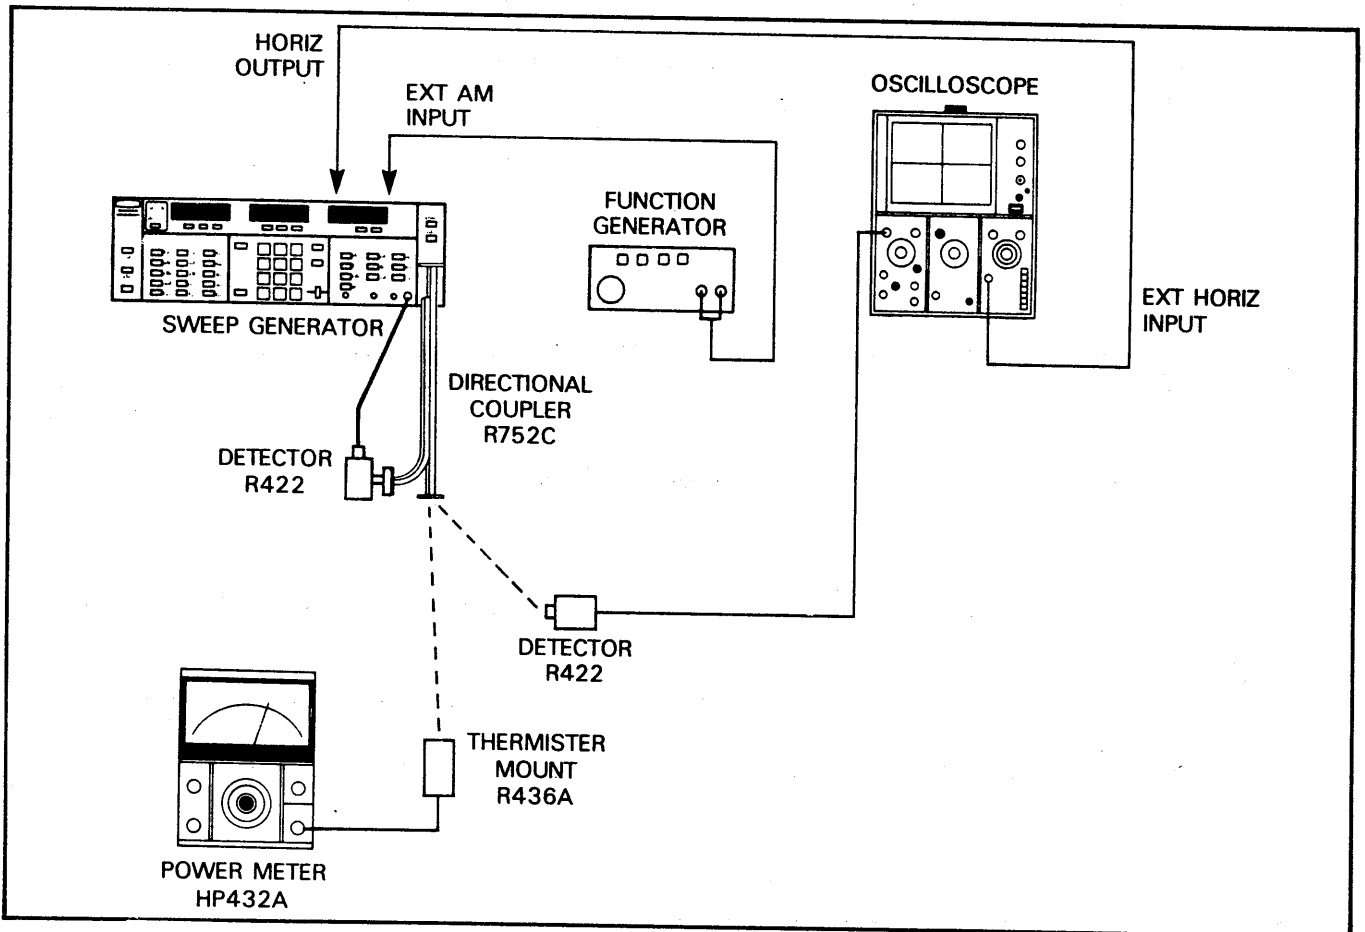

Figure 3-27. External Leveling Test Setup (6642A)
with the 26.5-40 GHz band – which does not contain an internal leveling capability – and (2) can only be used with one band at a time. That is, both the 18-26.5 and 26.5-40 GHz bands cannot be externally leveled at the same time. A test equipment setup for externally leveling the 26.5-40 GHz band is shown in Figure 3-27; the procedure for leveling the 26.5-40 GHz band is given in Table 3-8.
1. Connect test equipment for detector leveling, as shown in Figure 3-27. Turn the equipment on.